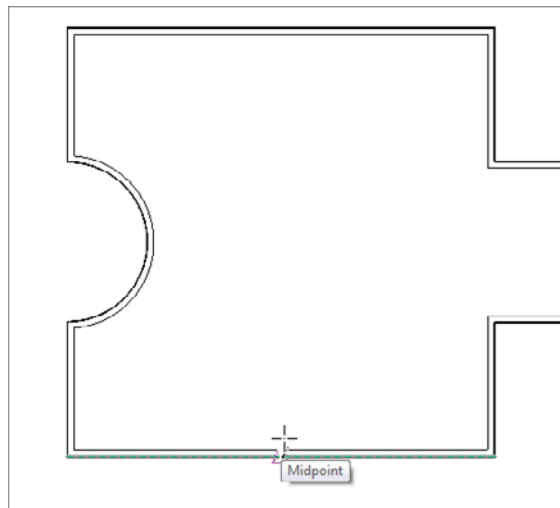

FIGURE 2.18 Adding the new walls requires picking the midpoint of this wall. Make sure Offset is set to 15'-0" (4500mm) on the Options bar.
8. Pick the midpoint of the south wall, as shown in Figure 2.18.